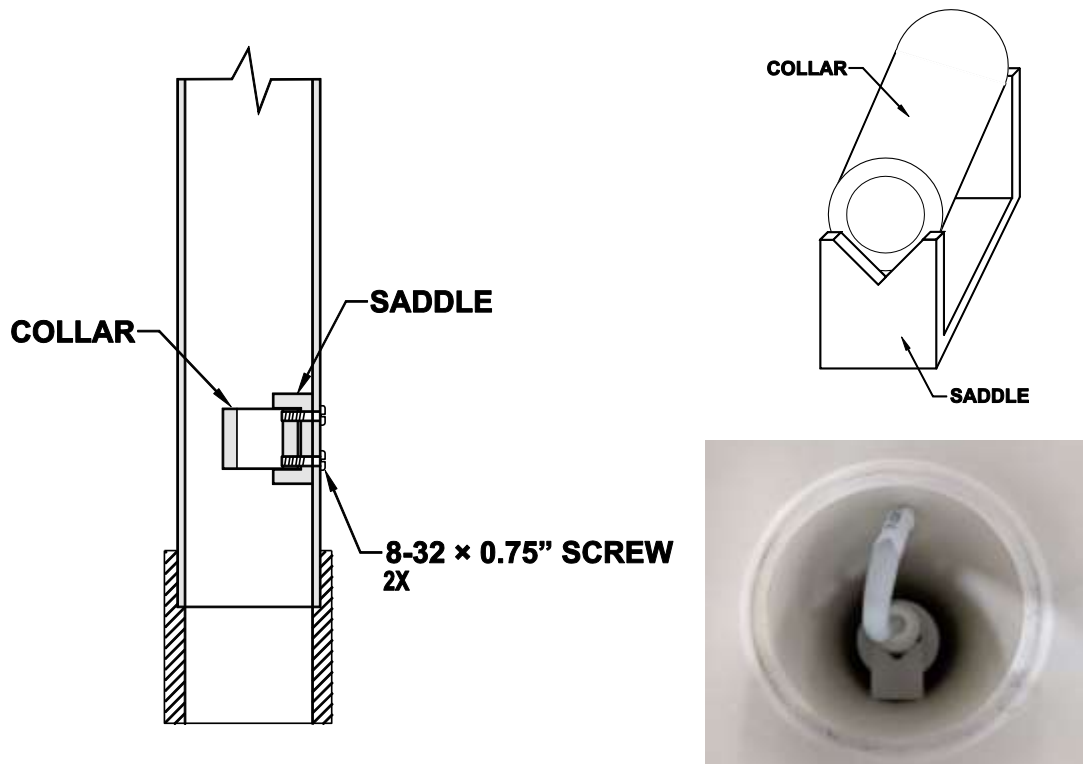

Figure 4. Probe Mounting Collar and Saddle Inside MARS
The probe is mounted close to the air intake of the MARS using a mounting collar and saddle arrangement that is attached with two screws on the inside of the MARS as shown in Figure 4.
4. Form a loose loop of cable at the base of the probe so that the cable forms a U (see Figure 4).